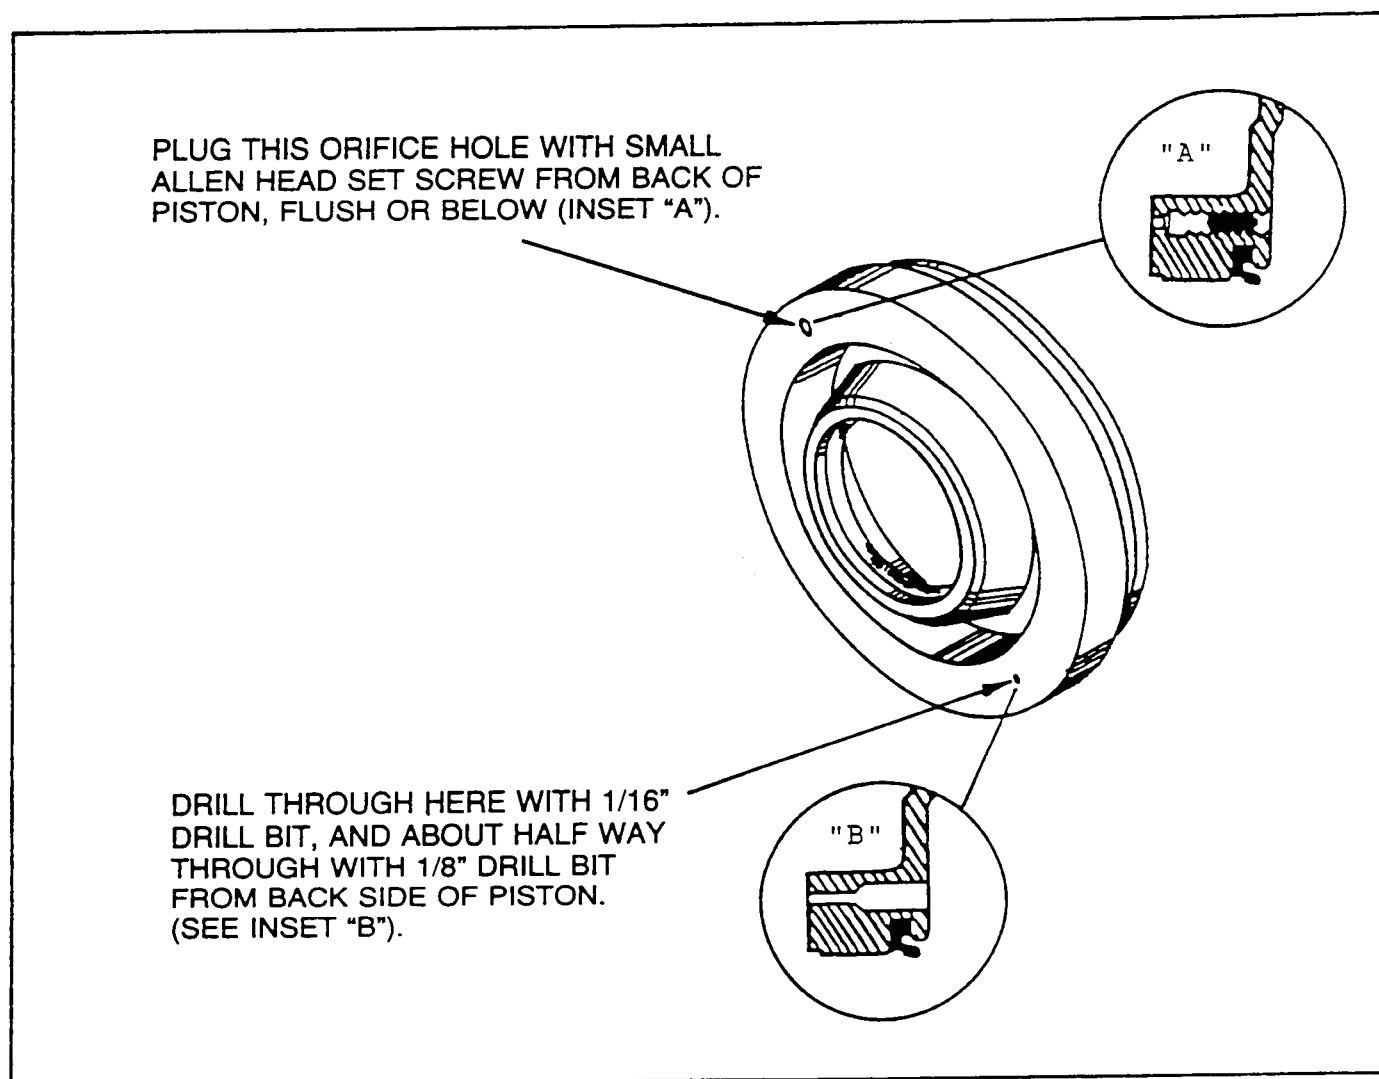

Figure 131
- CORRECTION:** Plug the original hole from the back side of piston with an allen head set screw, flush or below. Retain the set screw with Loc-tite (See Figure 131, Inset "A").
- 180 degrees from original orifice hole you will find a hole started but not drilled through. Drill through here with a 1/16" drill bit, from the front side of piston. Turn the piston over and from the back side of piston, drill about half way through with a 1/8" drill bit. (See Figure 131, Inset "B").